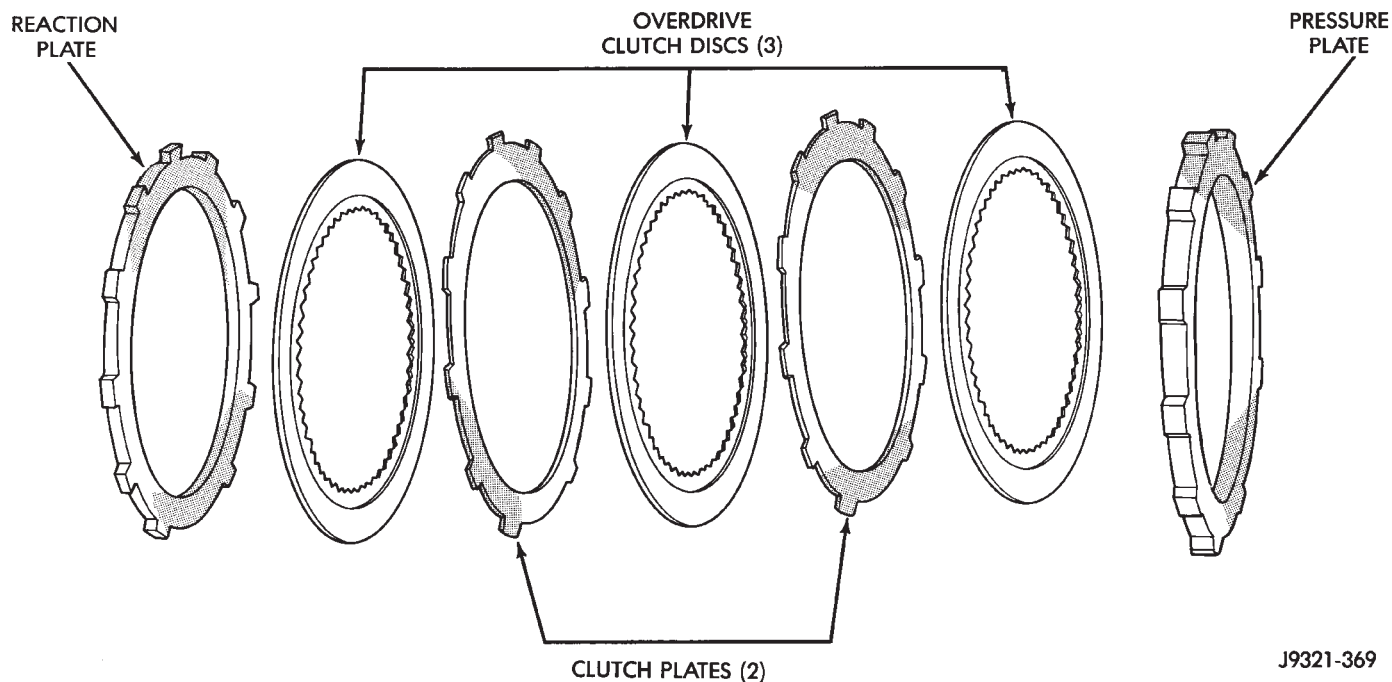

Fig. 65 Overdrive Clutch Components
(3) Assemble overdrive clutch pack (Fig. 65).
(4) Install overdrive clutch reaction plate first. **Note that reaction plate is thinner than pressure plate.**
(5) Install first clutch disc followed by first clutch plate. Then install remaining clutch discs and plates in same order.